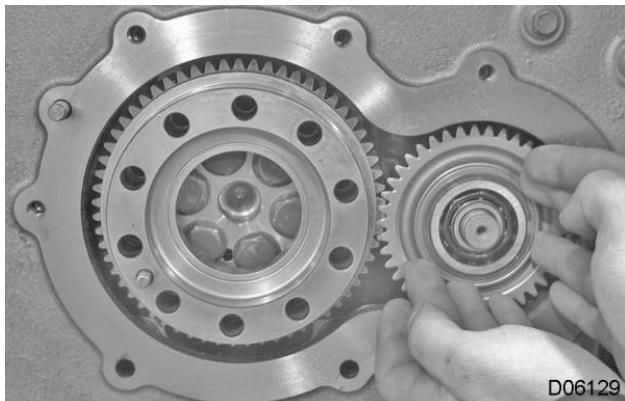

Figure 35 Install Idler Gear
36. Install the power steering idler gear on the shaft (Figure 35). The gear of the power steering and fuel pump assembly may have to be rotated for proper fit of the gears. Do not drive the gear on the shaft.